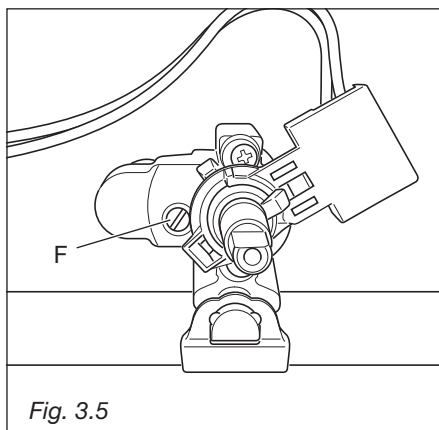

Fig. 3.5
- Using a screwdriver turn the screw **F** until the correct setting is obtained (fig. 3.5).